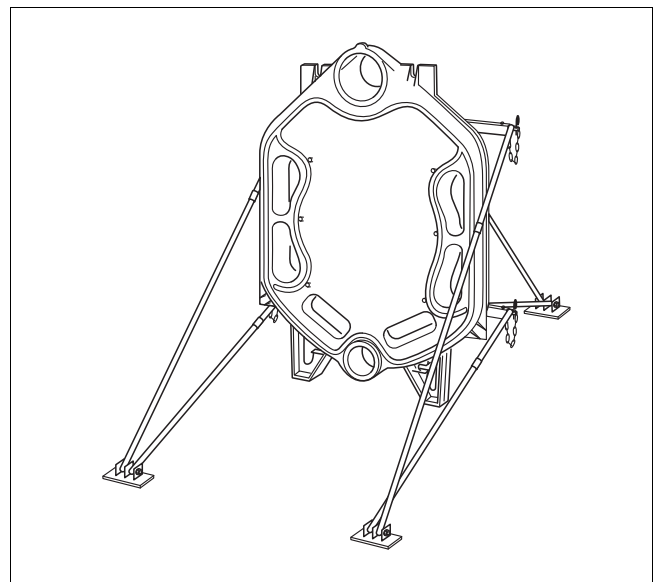

Fig 7 Rear section with fitted installation set
- Prevent the boiler sections from falling over using the installation aid (accessory) First screw the rear section firmly onto the installation aid (→ Fig. 7).
- Put the rear section in place and prevent from falling over using the installation aid (→ see Fig. 7 and separate installation aid instructions).